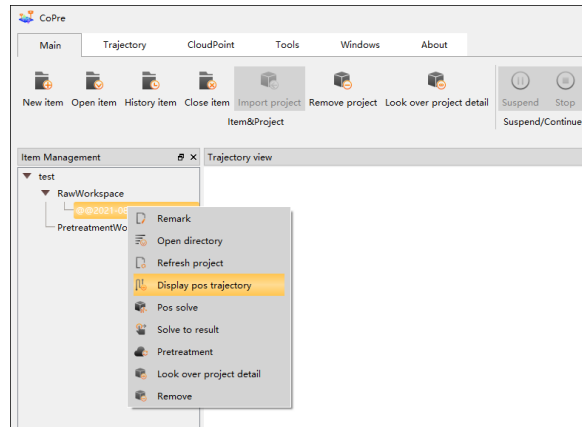
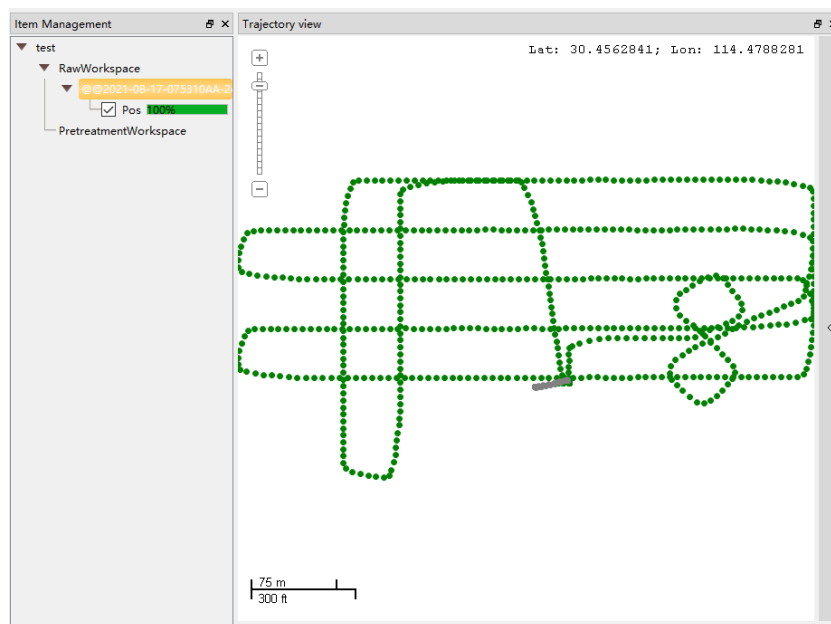

Figure 21
Figure 22
- Right-click the project file, and the TAB appears. Then left click Display pos trajectory (figure 21), and the POS trajectory appears in the trajectory view as shown in figure 22